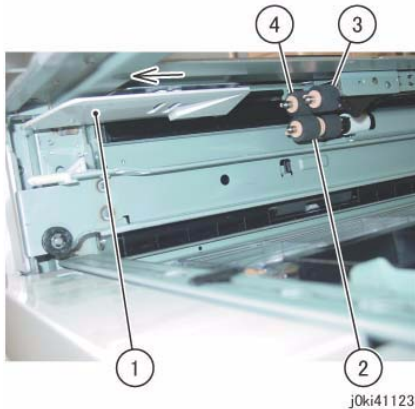

Figure 1 Remove the Feed/Retard/Nudger Rolls
4. Remove the Feed/Retard/Nudger Roll. (Figure 1)